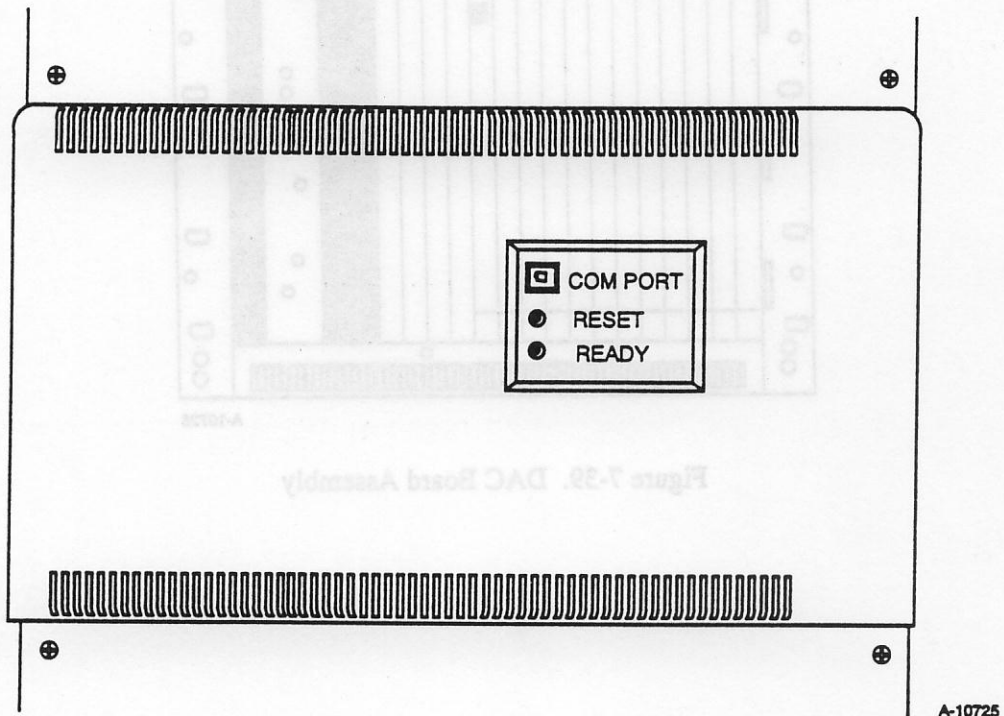

Figure 7-37. DAC Snap-fit Panel
3. Remove the front face panel from the DAC. This is a snap-fit panel. Refer to Figure 7-37.